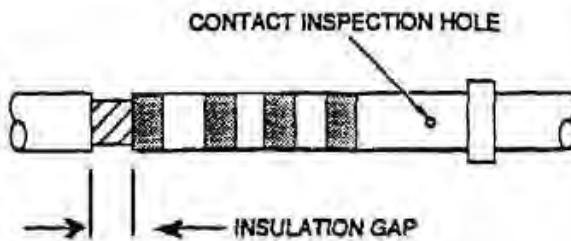

Figure 18
(18) Insert stripped wire into contact conductor barrel. Ensure all wire strands are inside contact conductor barrel and the conductor is completely visible in contact inspection hole (Figure 18).